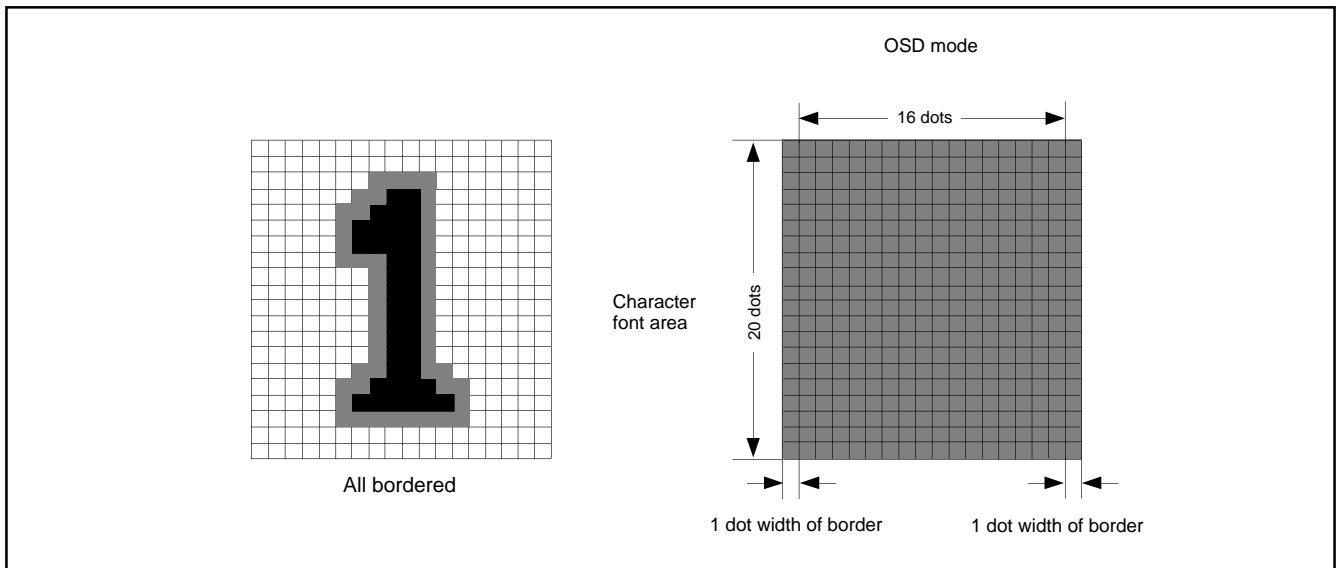

Fig. 72. Example of Border Display
**Notes 1** : The border dot area is the shaded area as shown in Figure 72.